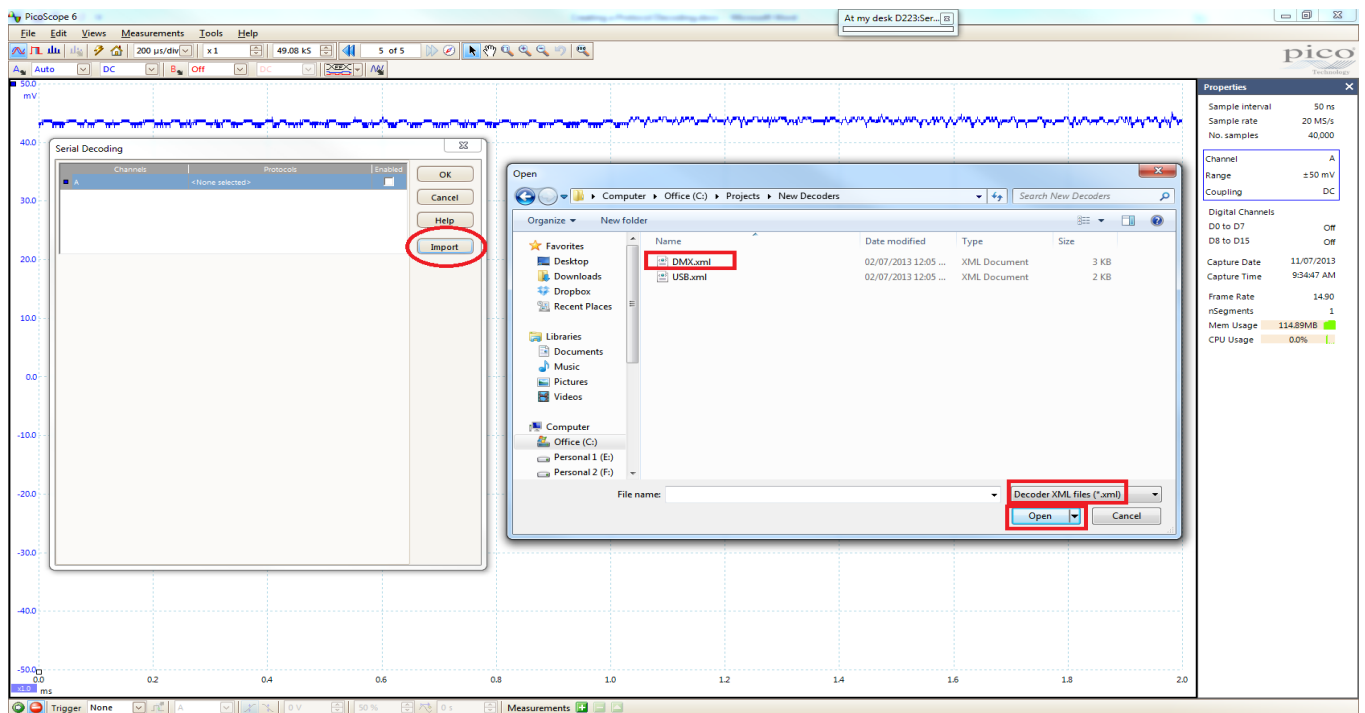

Fig 2
- o Or Use "Import" button in SerialDecoding Setup dialog and locate the xml as in Fig 2.